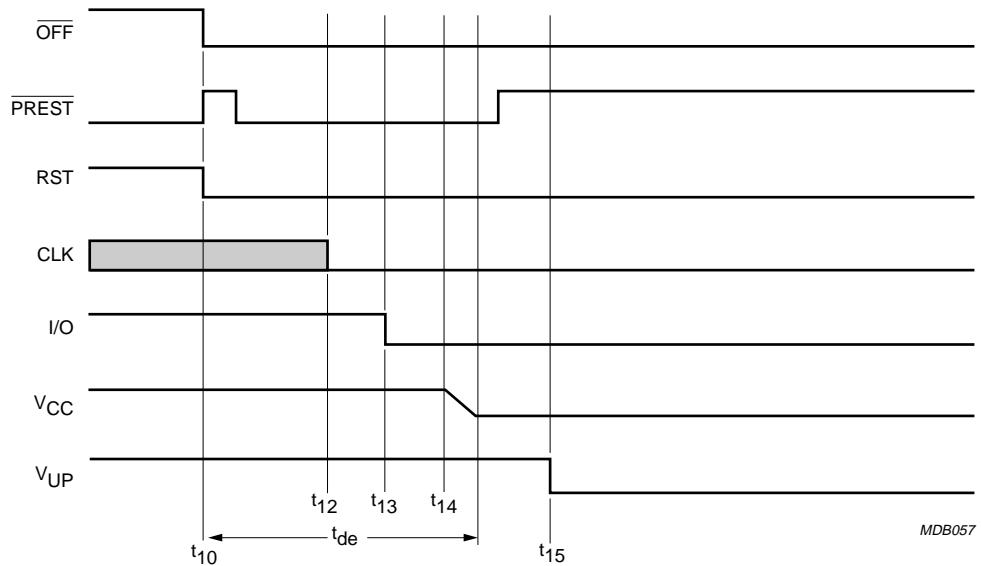

Fig.9 Emergency deactivation sequence (card extraction).
- **CMDVCC LOW within a card session.** Output \overline{OFF} goes LOW when a fault condition is detected. As soon as this occurs, an emergency deactivation is performed automatically (see Fig.9). When the system controller resets $CMDVCC$ to HIGH it may sense the \overline{OFF} level again after completing the deactivation sequence. This distinguishes between a hardware problem or a card extraction (\overline{OFF} goes HIGH again if a card is present).